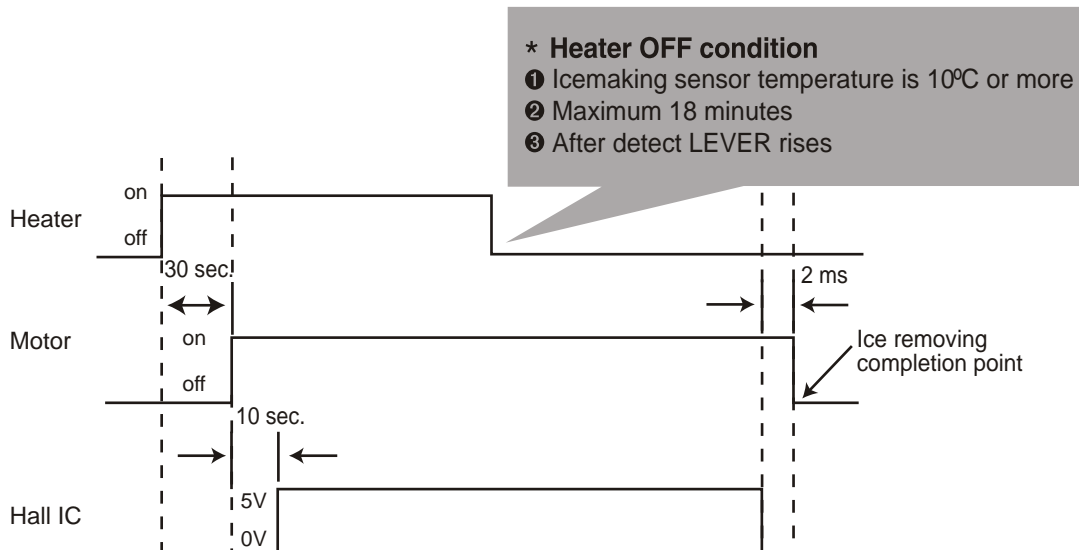

Figure1. Harvest mode Process
- (1) The heater is ON for 30 seconds, then the motor starts.
- (2) After performing Step 1 (the heater is turned OFF), the ejector will be back in place within 18 minutes. (Hall sensor sign = 0V). Ice removal is then complete. Then the icemaker cycles to the fill mode. The water supply fails to start, it is not functioning. Put the heater and motor in the off position. Restart every 2 hours. (Refer to figure1)